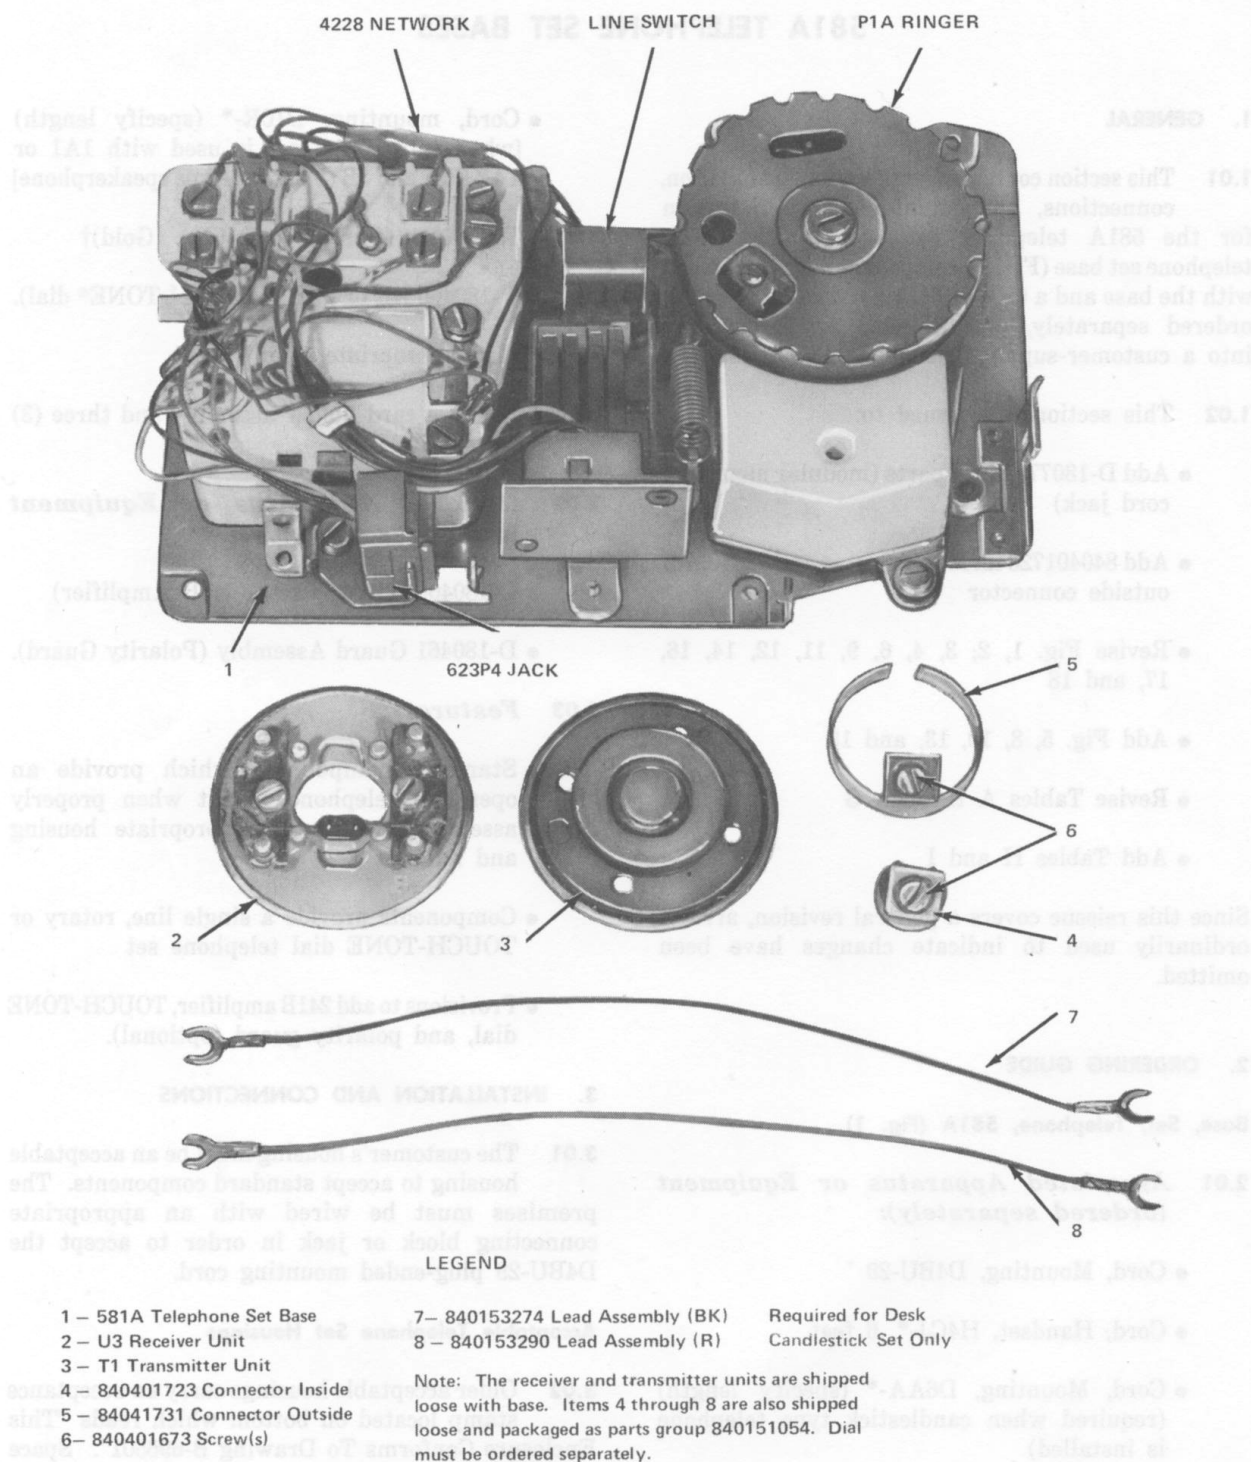
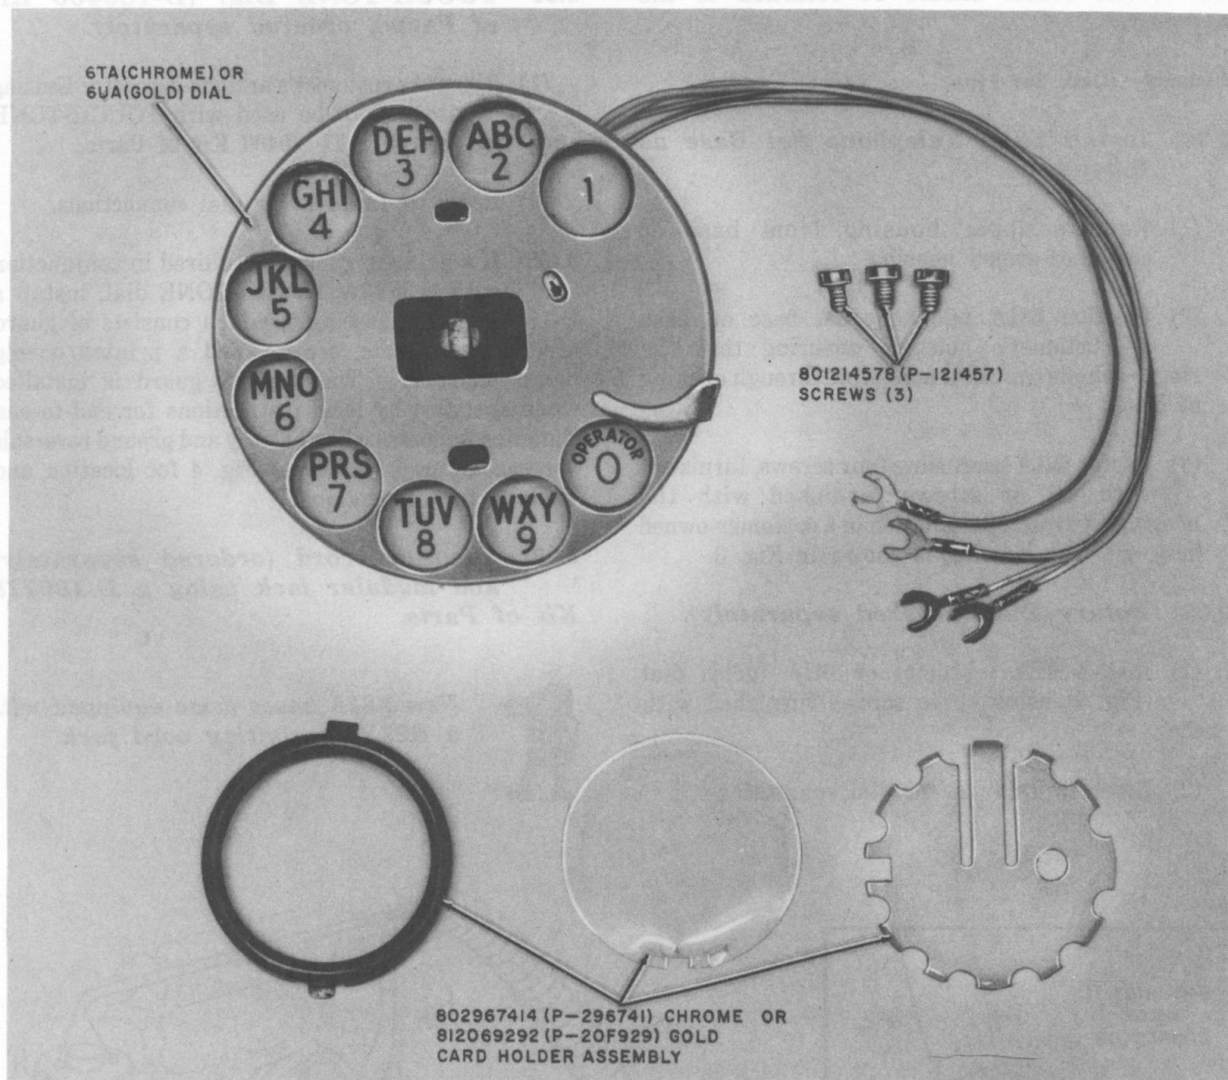

Fig. 1—581A Telephone Set Base and Parts Group
Fig. 2—6TA or 6UA Dial and Associated Parts
**1.01** This section contains identification, installation, connections, and maintenance information for the 581A telephone set bases. The 581A telephone set base (Fig. 1), component parts furnished with the base and a 6TA or 6UA rotary dial (Fig. 2), ordered separately, are designed for assembling into a customer-supplied housing and handset.
- Revise Fig. 1, 2, 3, 4, 6, 9, 11, 12, 14, 16, 17, and 18
Base, Set, Telephone, 581A (Fig. 1)
† Includes card holder assembly and three (3) screws (Fig. 2).
- (1) Install 6TA (chrome) or 6UA (gold) dial (Fig. 2) using three screws furnished with dial.
- (2) Refer to Table A for dial connections.